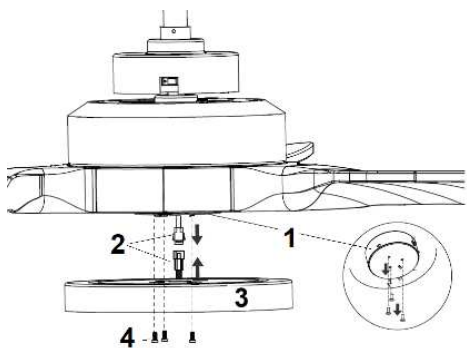

Fig. 7
- Join the connectors (2) together and place into the connection box (1). (Fig. 7)
- Install the light bracket (3) onto the connection box (1) by securing the 3 screws (4). (Fig. 7)